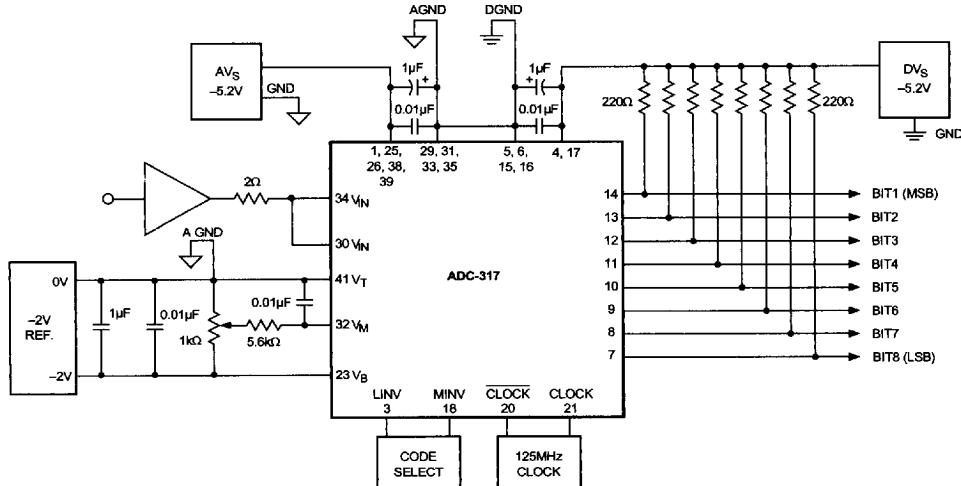

Figure 2. ADC-317 Typical Connection Drawing
- Digital output bits 1 through 8 require 220Ω pull-down resistors connected to the negative supply rail. Refer to Figure 2.